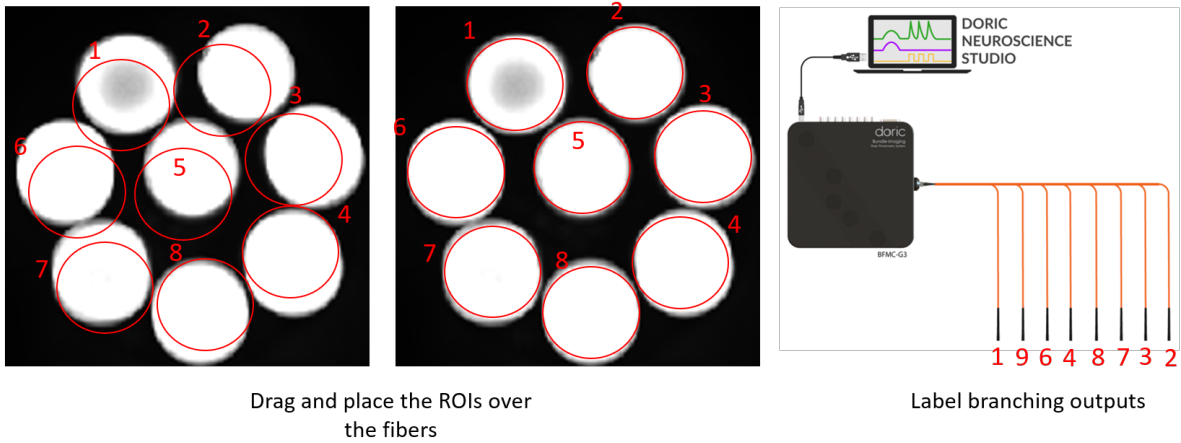

Figure 1.14: *Adjusting ROIs over the Fibers*
- If you are using a BFTO system, the branching patch cord outputs are labeled with numbers. Match these numbers by dragging the ROI with the same number and placing it over the corresponding fiber image (Fig. 1.14).
- If you are using a BFMC bundle system, the branching patch cords are not labeled. In this case, label each branch manually in the lab and assign a number to each one. Then drag the ROI with the matching number and place it over the corresponding fiber image (Fig. 1.14).